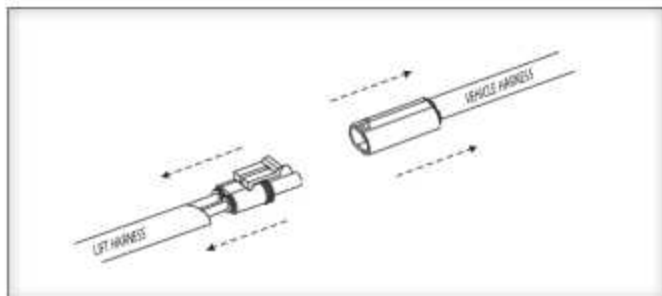

Figure 10-1
1. Unplug Power to the Lift. [Figure 10-1]